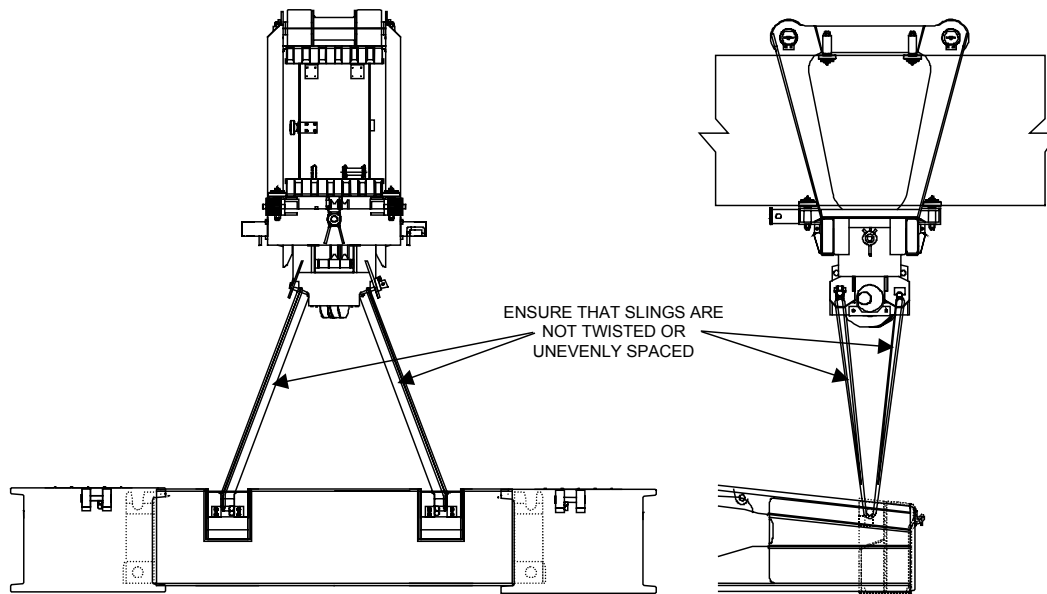

Figure 3. 38 Method and Location of Slings Far Bank Ramp Module
- 3.9.10.18 Route the far bank carriage slings through the far bank ramp end beam lifting points (Figure 3. 38) and reconnect to the carriage beam. Ensure that the sling straps do not cross and are not twisted. Ensure that the carriage is level horizontally and vertically prior to lifting, with respect to the upper part of the carriage.